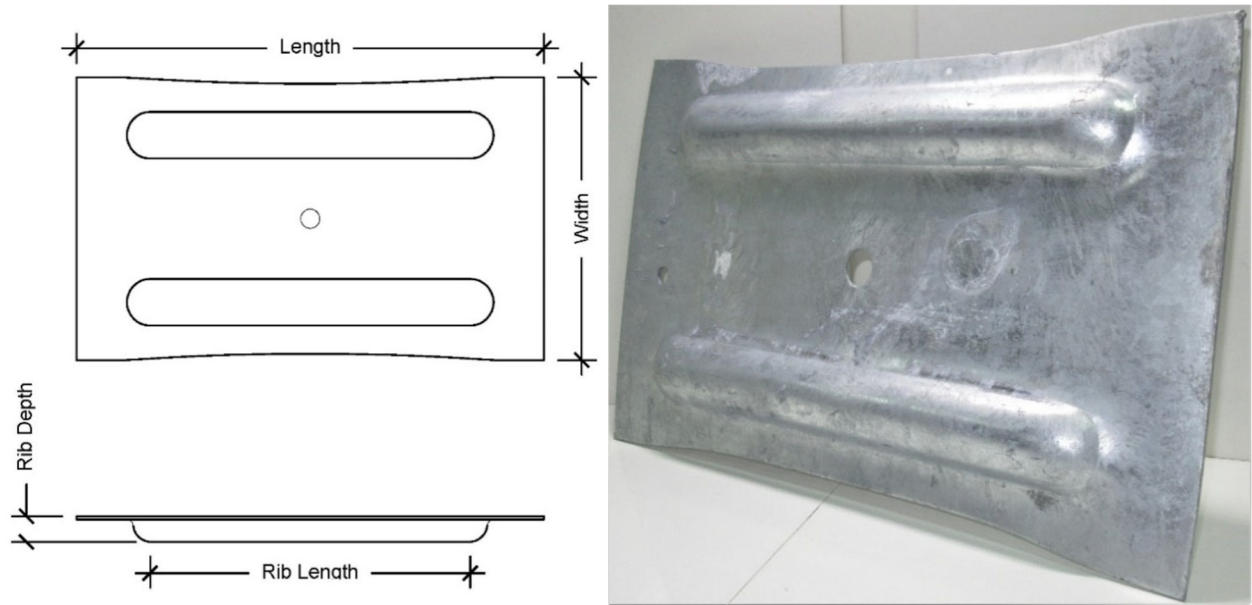

FIGURE 3—INTERIOR WALL PLATE
**3.2 Interior Wall Plate:** The interior wall plate is part of an assembly that is 18-¼ -inches (46.36 cm) x 11-inches (27.94 cm) or 28-inches (71.12 cm) x 12-½ -inches (31.75 cm) formed steel plate. See Table 1 for more specifications. The maximum distance that the wall plate can span is 8-inches (20.32 cm). The interior wall plate is hot-dipped galvanized in accordance with ASTM A123M and as illustrated in Figure 3.